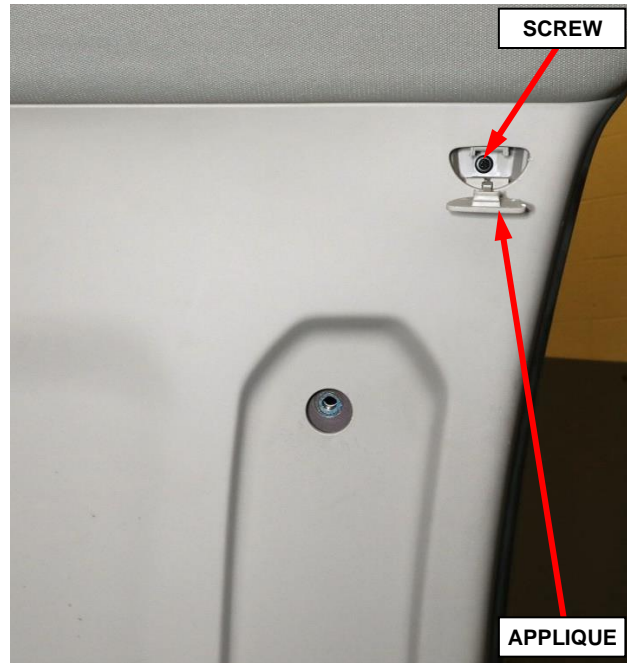

Figure 27 – C-Pillar Upper Trim Panel
- Using a trim stick or equivalent, release the C-pillar airbag applique then remove the screw that secures the upper trim panel (Figure 27).
50. Install and tighten the screw that secures the C-pillar upper trim panel. Then install the airbag applique (Figure 27).